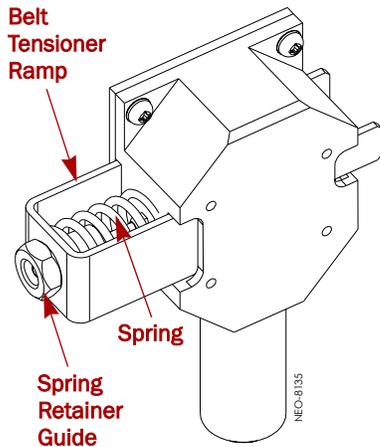

Figure 2. Top Pulley Spring Tensioner
1. At the top Pulley Spring Tensioner assembly (Figure 2), hand tighten the **Spring Retainer Guide** until it is flush against the Belt Tensioner Ramp.